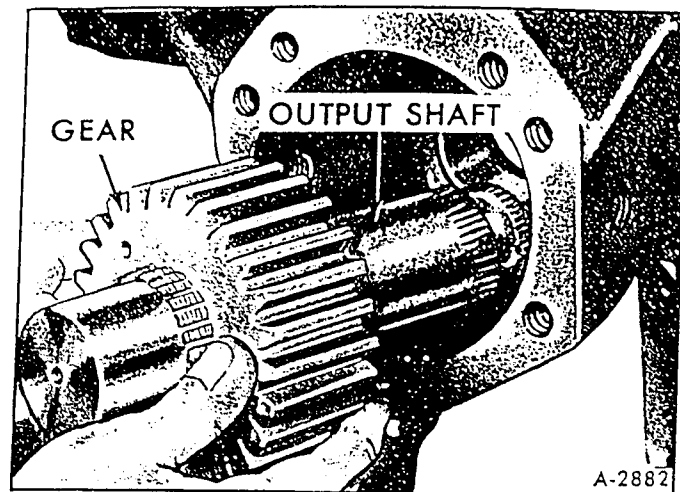

Figure 12 – Removing Output Shaft and Gear (Typical)
6. If output shaft and pinion gear assembly was not removed with the cover, lift assembly from housing (fig. 12).